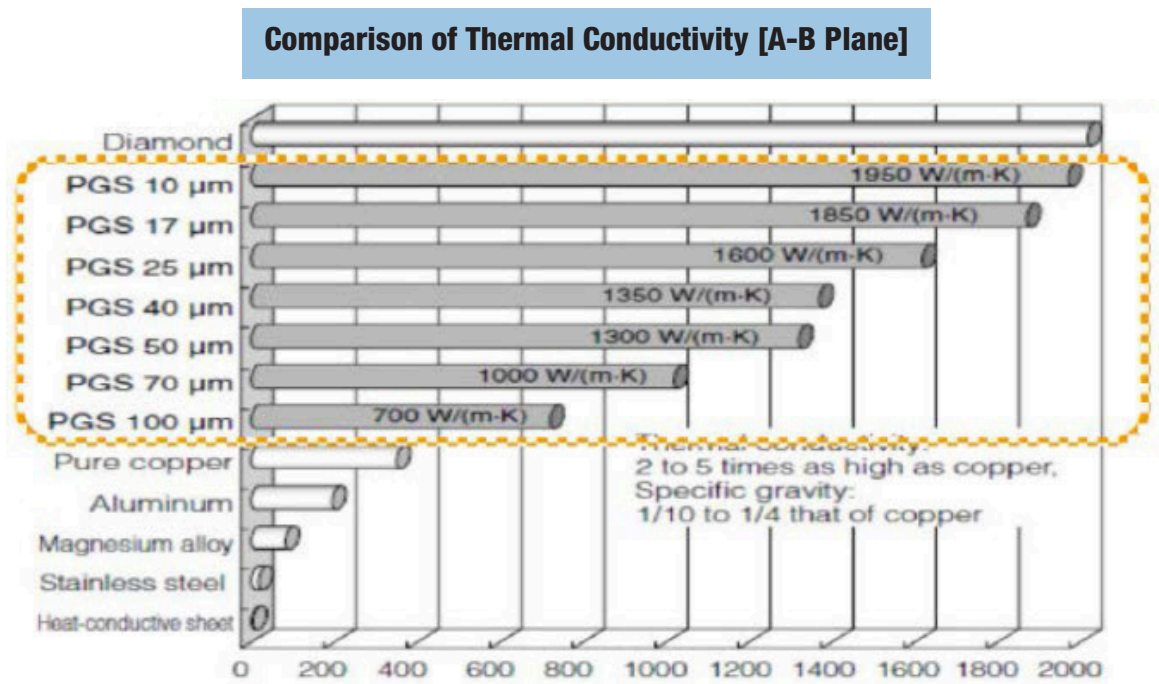

Fig 2.
- it is very thin – available in a range of thicknesses from 100µm down to 10µm – and has excellent thermal conductivity from 700 to 1950W/m.K which is two to five times higher than copper and up to seven times better than aluminium (see **figure 2**)